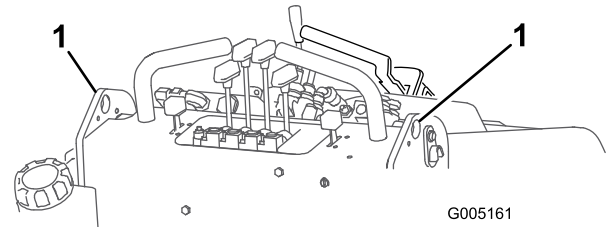

Figure 11
2. Lift the traction unit off the ground, using the two lift points (Figure 11) and move it onto a trailer.